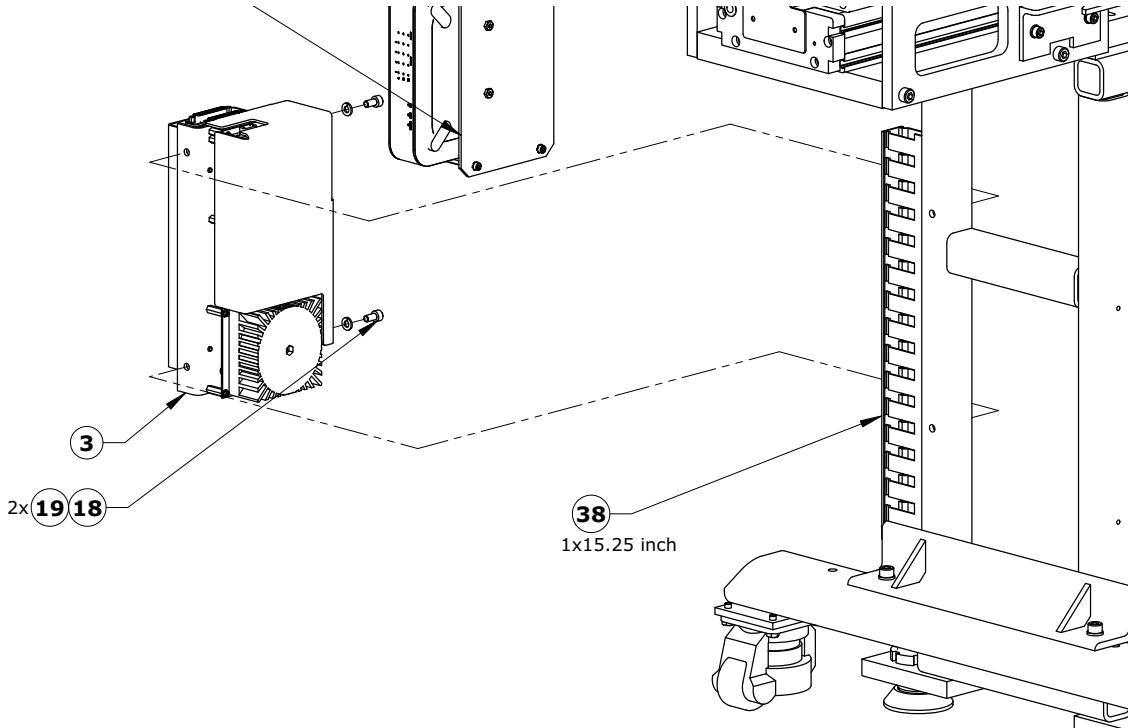

Figure 5-13
3. Remove two (2) 6mm socket screws (2109867-12, Item 18) and set aside with two (2) flat washers (2109880-3, Item 19). See Figure 5-13.
4. Mount Assembly as shown in Figure 5-13 using two screws and flat washers set aside earlier.